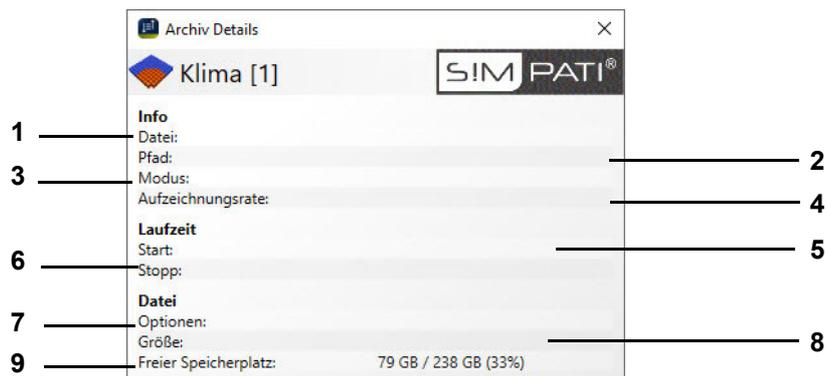

Fig. 10-5 Window with archiving information in automatic / program mode
- 12 If the test is to be recorded, a menu window with archiving information will be available → Fig. 10-5 »Window with archiving information in automatic / program mode« (page 88).